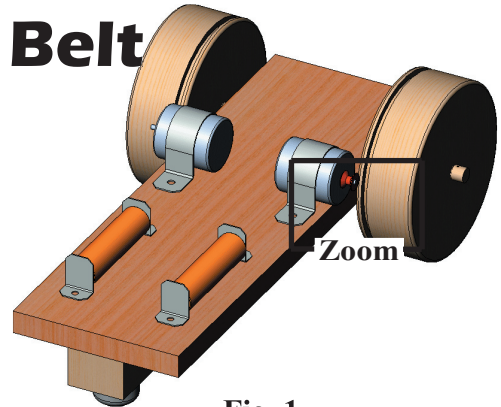

Fig. 1
Step 3. Use the **Zoom to Area**  in the View toolbar to drag a zoom window around the **pulley and wheel**, Fig. 1.